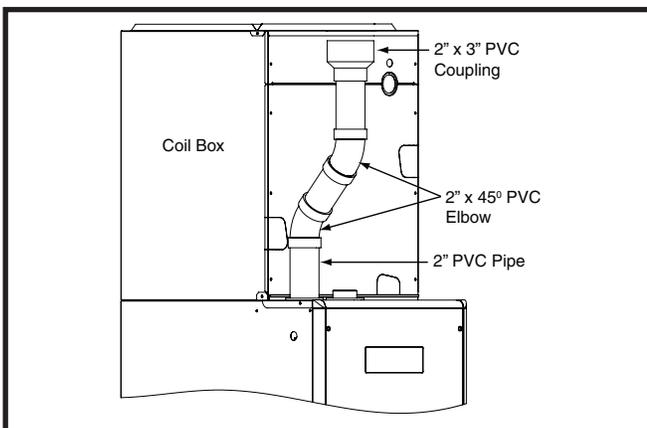

Figure 20. Optional PVC Pipe Installation
- If the size of the PVC flue needs to be increased from 2" to 3", two, 2" x 45° PVC elbows may be used to achieve the clearances needed between the coil box and the 2" x 3" coupling. See Figure 20 \(page 18\).